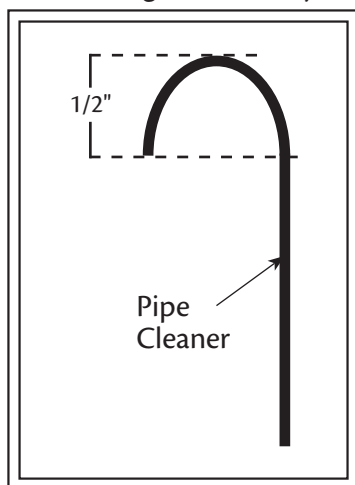

Fig. 17
2. To check oil, bend an ordinary pipe cleaner into 1/2" long hook and dip it into the oil reservoir (see Fig. 17).